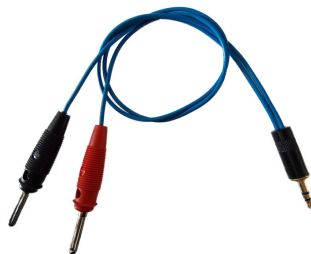

Figure 5-17: Adapter for the connection of a walkie-talkie to the *CPC 100*
- Optional: Connect a walkie-talkie, which is used as a receiver, to the *CPC 100*'s VDC input, by using an adapter as shown in Figure 5-17 below.